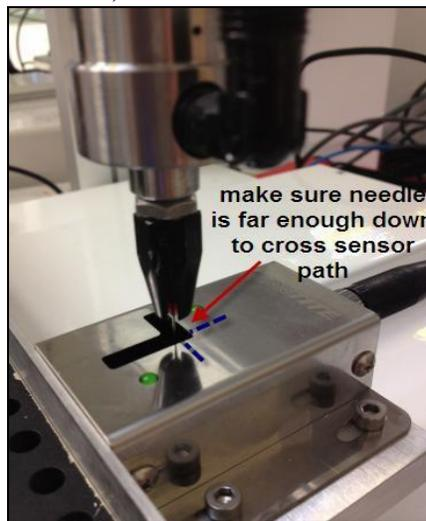

Figure 5: The blue dotted lines designate where the needle should intersect in the calibrator.
- 4) Move the needle tip using the Jog buttons on the Teach Pendant to the imaginary intersection from the white X and Y lines on the calibrator (highlighted in **Figure 5** as the blue dotted lines). Hit Enter.